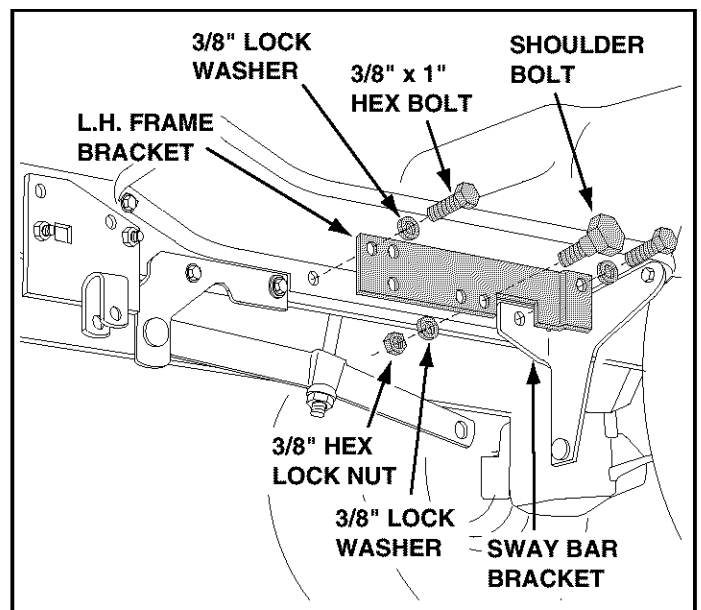

FIGURE 6 RIGHT SIDE VIEW
- Assemble the L.H. frame bracket (with bend) to the L.H. foot rest and sway bar bracket as shown in figure 6. Use two 3/8" x 1" hex bolts and two 3/8" lock washers.
- Assemble a shoulder bolt to the outside of the L.H. frame bracket, securing it with a 3/8" lock washer and a 3/8" hex lock nut. See figure 6.